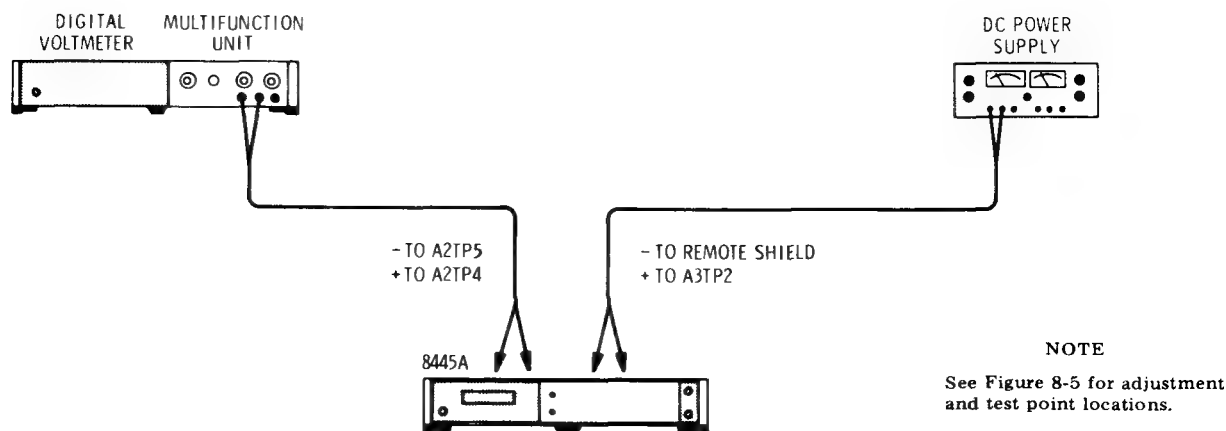

Figure 5-3. Remote Amplifier Check and Adjustment Test Setup
1. With test setup as indicated in Figure 5-3, apply power to Preselector and allow at least 30 minutes for equipment to stabilize.